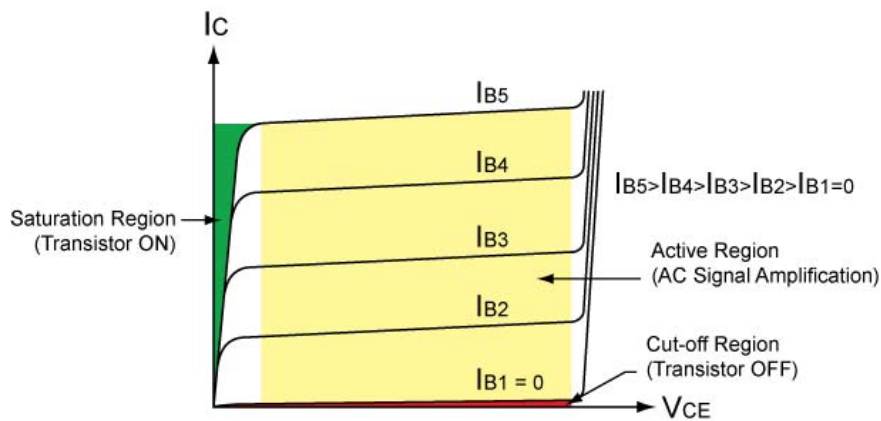
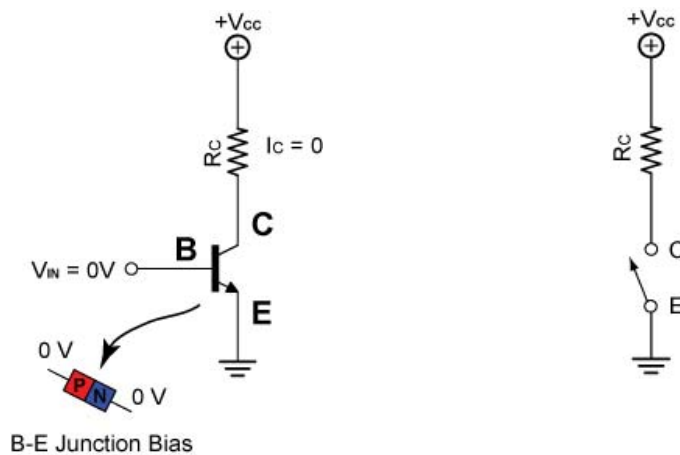

Figure 14: Bipolar Junction Transistor (BJT) Regions of Operation Shown on a Transistor Characteristic Graph
Figure 19: NPN Transistor Switch in the OFF Condition
- Bipolar Transistor Operation: Bipolar transistors have distinct regions of operation that are defined by the voltages applied to the BJT junctions. See the graph in Figure 14.
- NPN Transistor in the OFF Condition: If the base input voltage is reduced to zero, the base current (I_B) will also be zero since the base-emitter junction is not forward biased. From the transistor characteristic graph in Figure 14, the collector current (I_C) is cut-off to near zero making it act as an open switch. See Figure 19.